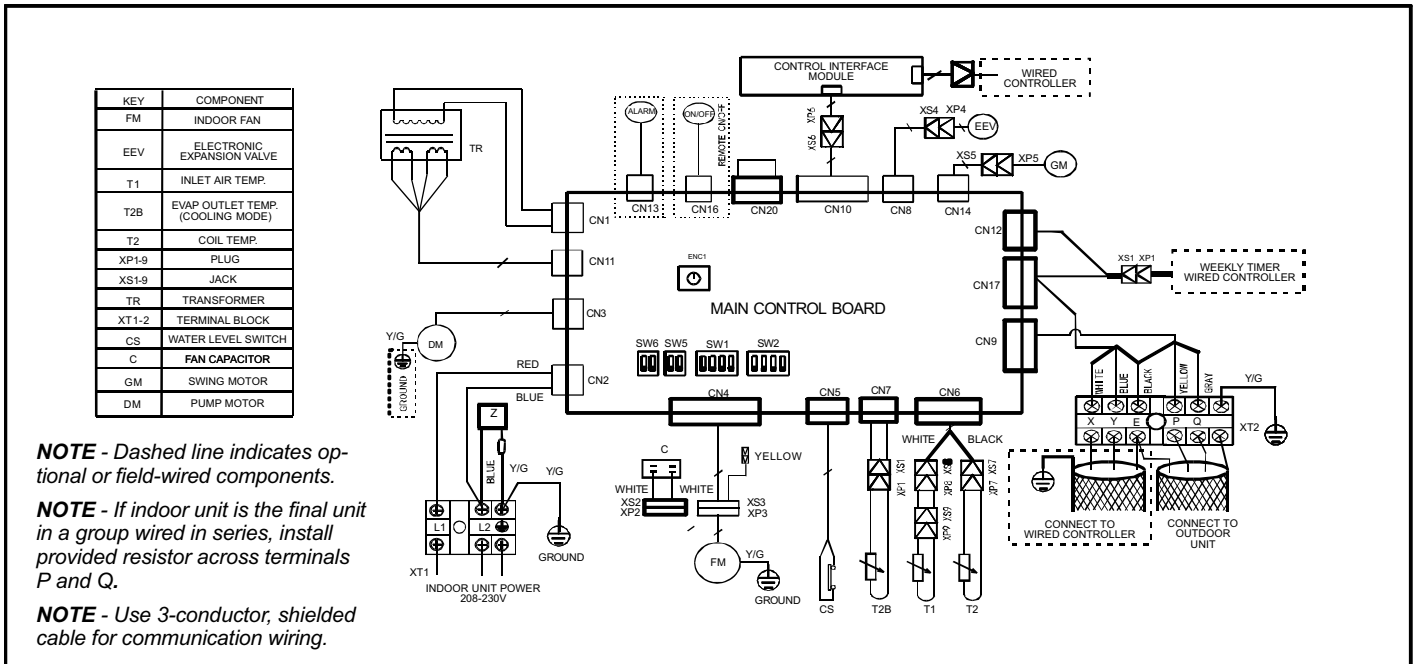

Figure 12. Typical V22A Wiring Diagram
- 2 - Locate the terminal strip in the control box. Connect the power wiring (sized per NEC/CEC and local codes) and communications cable (**three-conductor, shielded cable**) per figure 12. Refer to unit nameplate for rated voltage.